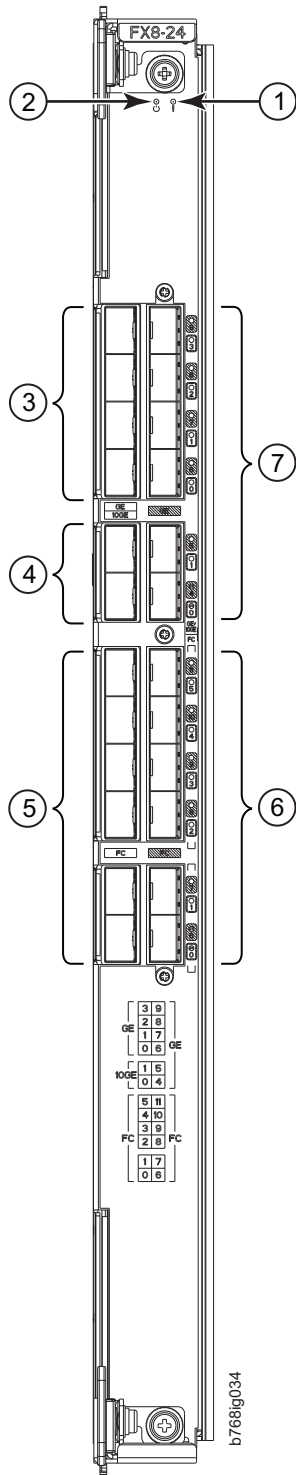

Figure 56. FX8-24 extension blade
- Figure 56 on page 154 shows the FX8-24 extension blade